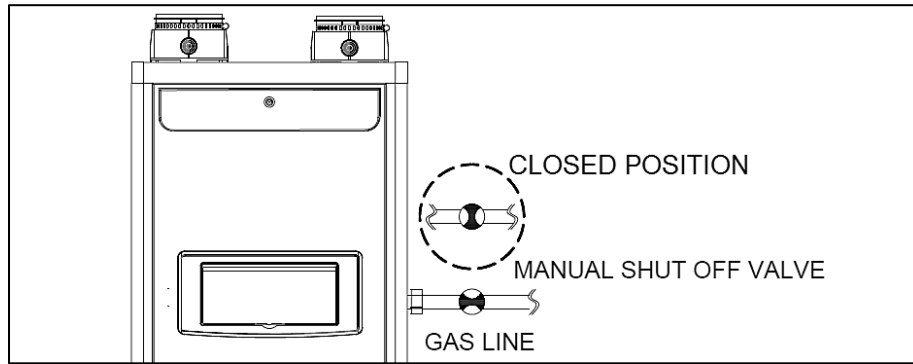

Figure 17 – Gas Line with Shut-Off Valve Detail
4. A manual gas shut-off valve should be installed in the gas supply line close to the appliance. See Figure 17 for detail.